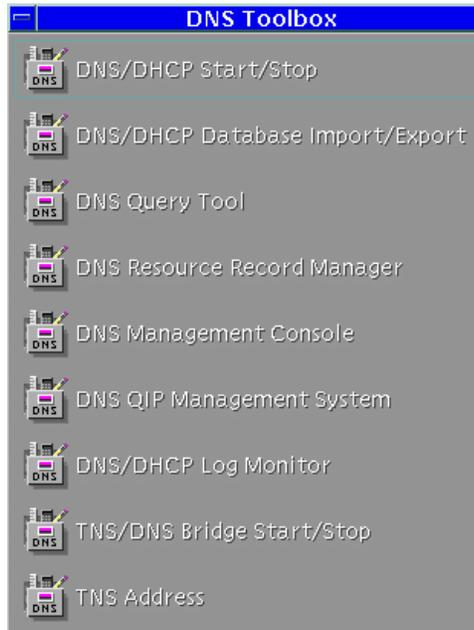

Figure 7 – DNS Toolbox
40. From the CDE Tool Bar select the **DNS Toolbox** submenu. See Figure 7.